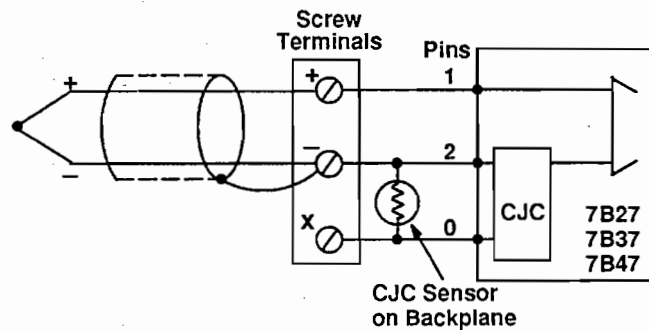

Figure 2-13. Thermocouple Input
- **Thermocouple Input** - An example of wiring a thermocouple input signal to a 7B27, 7B37, or 7B47 module is shown in Figure 2-13.